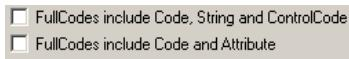

Figure 4-4. FullCodes Structures
- Select which FullCodes (Figure 4-4) are used in the file to be opened: